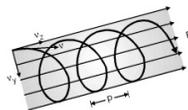

Fig. 7.4.1 : Electrostatic focussing
- If an electron enters a magnetic field at an angle θ to its initial velocity, the particle describes a helical path in the field. The axis of helix will be the direction of magnetic field as shown in Fig. 7.4.1.